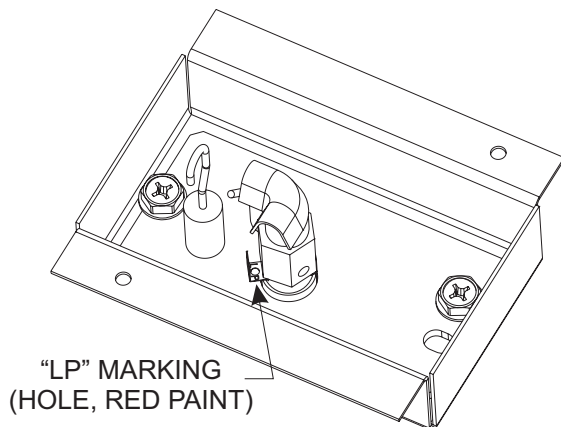

Figure 8
11. Using a 7/16 inch open wrench, loosen pilot body by slightly turning counter-clockwise. Slide orifice bracket to other side and tighten pilot body clockwise (**Figure 8**)